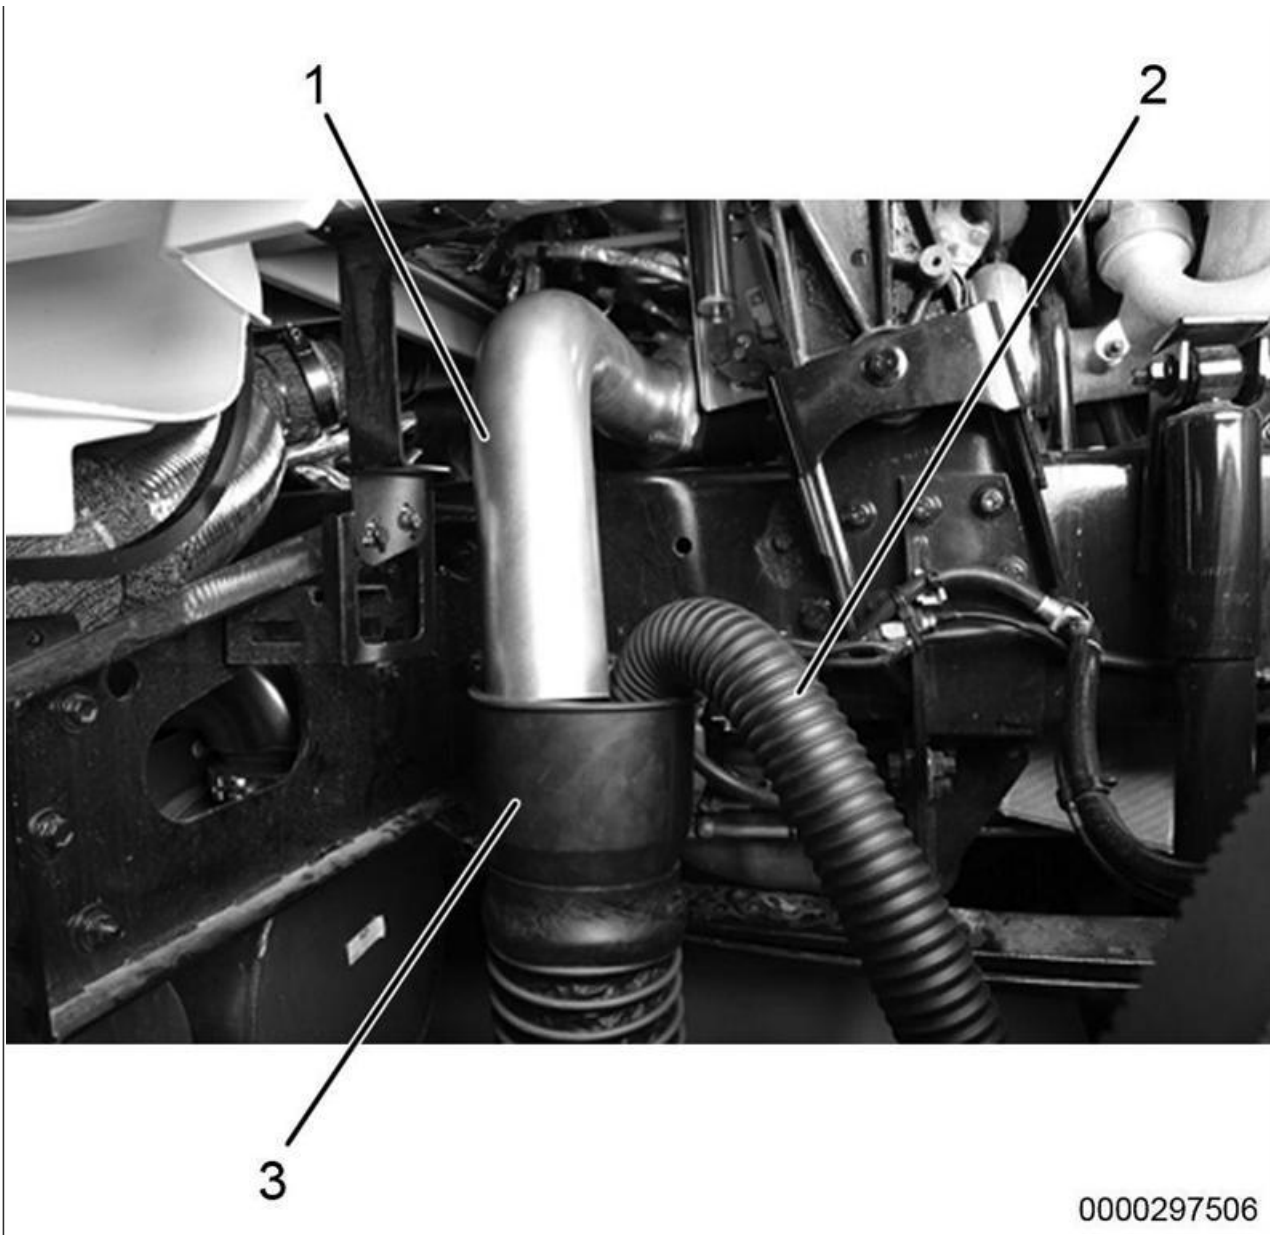

Figure 12: Exhaust Vent
28. Connect exhaust vent tube (Figure 12, Item 3) to exhaust redirect pipe (Figure 12, Item 1) and crankcase breather redirect tube (Figure 12, Item 2).